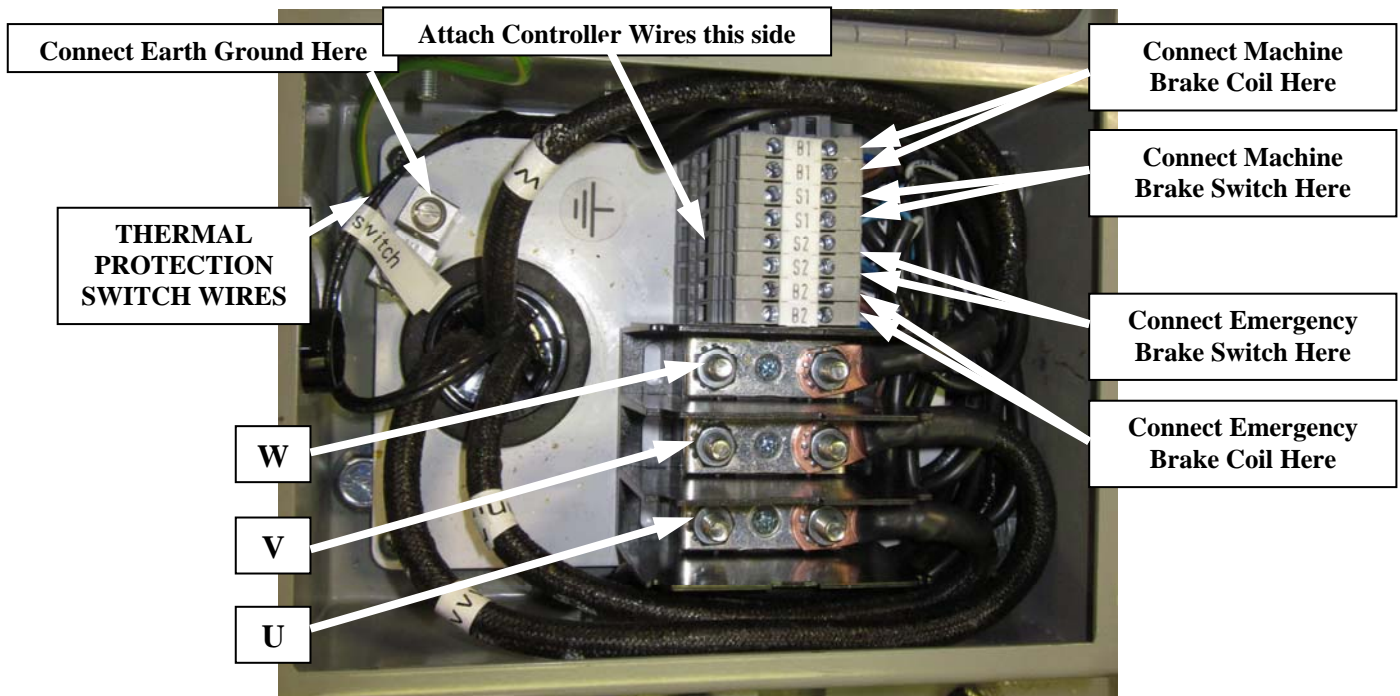

Figure 13
- Thermal Protection Switch (TPS) is wired with leads labeled and supplied into the machine electrical enclosure. Refer to Figure 13. Contacts are Normally Closed, opening if an overheat condition exists, and will close again after the machine has cooled to safe operating temperatures.
- Connect the U-V-W lines from the drive as they correspond to motor. See Figure 13.
- Connect the machine and emergency brakes where shown in Figure 13.